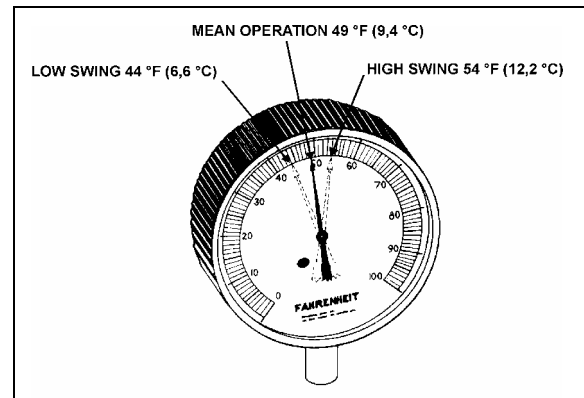

FIGURE 37: HIGH & LOW SWING TEMPERATURE AT REMOTE BULB 22047
6. Check approximately 5 readings of pressure at 2-minute intervals and convert to temperature using the vapor-pressure table (page 36). Likewise check the temperature reading at the remote bulb at the same 2-minute intervals and record the low and high swing readings of the needle (refer to Figure 37).
Example of readings taken at Figure 37: